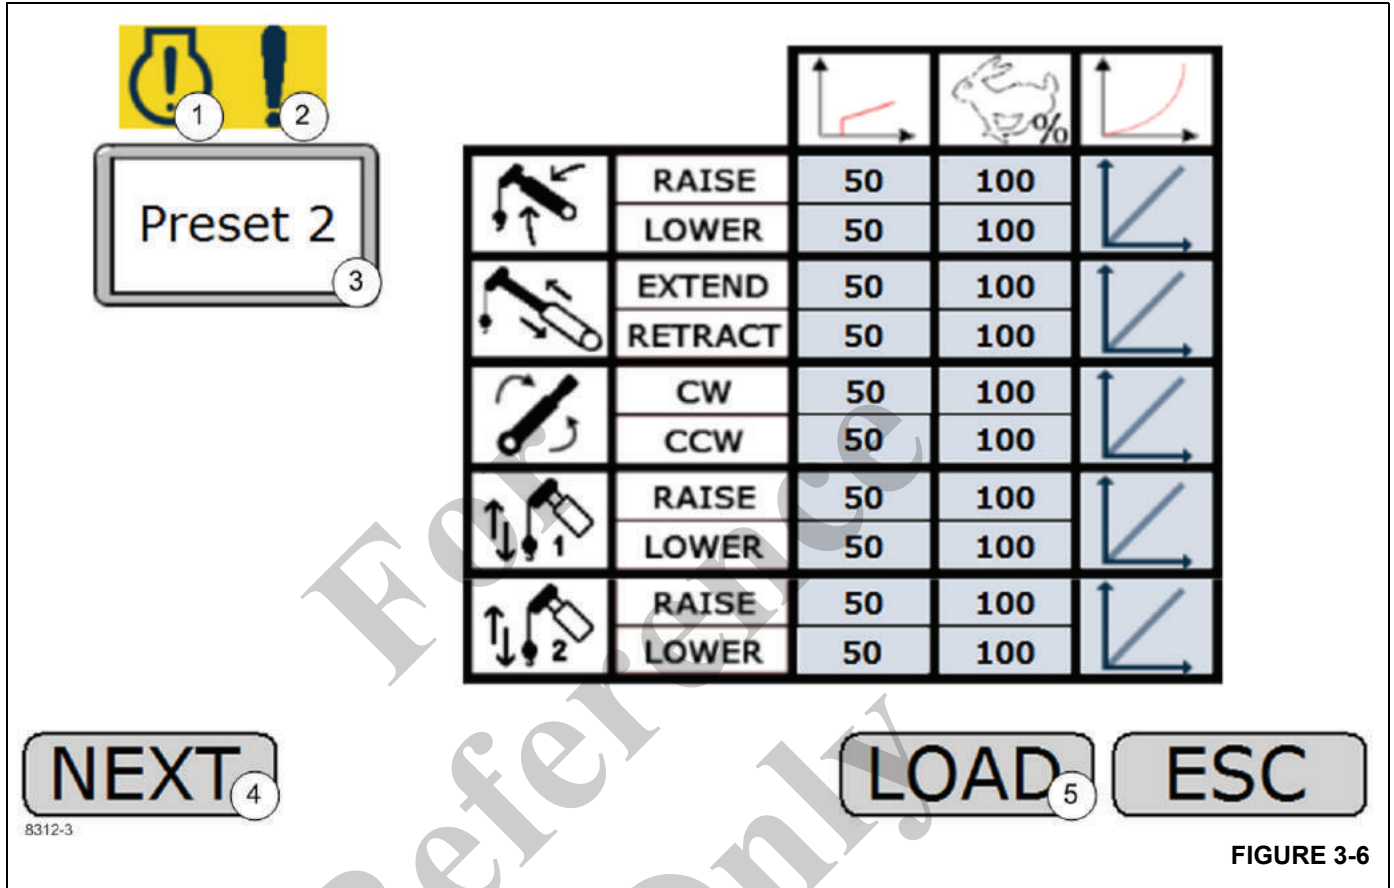

FIGURE 3-6
The load presets screen (Figure 3-6) allows the operator to view/load from three different presets (labeled Preset 1, Preset 2, and Preset 3) or to load the “No Preset” option,
Engine Fault Active Indicator (1) (Figure 3-6)